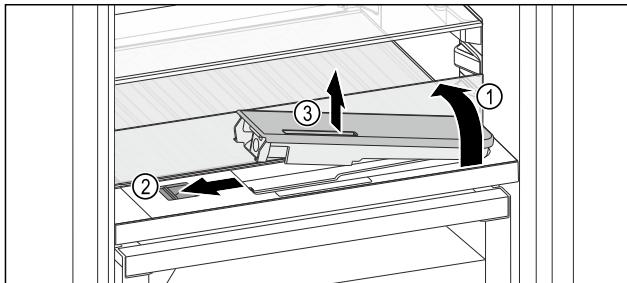

Fig. 116
- Lift the glass panel and fold to the back as far as it will go *Fig. 116 (1)*.
- Slide the slider *Fig. 116 (2)* to the left.
- Remove the water tank *Fig. 116 (3)*.